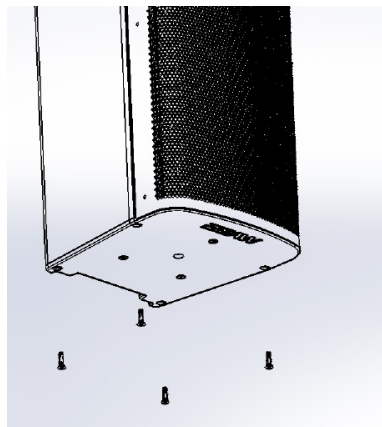

Figure 1 - Remove screws
- Remove 4x M5x20 outer screws from bottom of AC6 for slide plate(Figure 1).